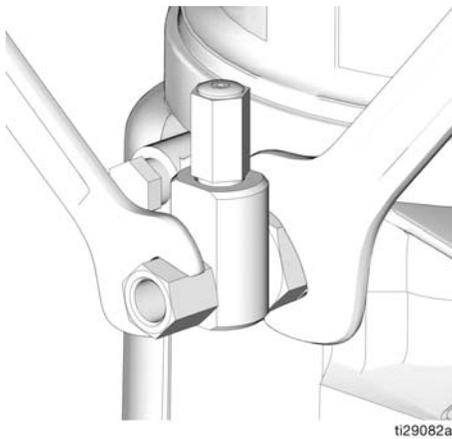

FIG. 30
1. Loosen pump element fitting (FIG. 30).
3. Tighten pump element fitting using two wrenches working in opposite directions (FIG. 30).